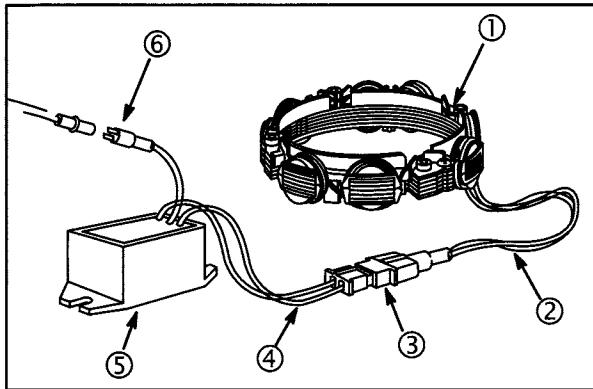

Fig. 26
1. Stator Assembly (1) – 10 or 16 amp DC regulated system, **Fig. 26**.
2. Two BLACK leads (2) from stator.
3. YELLOW connector (3) with two pin terminals.
4. Two YELLOW leads (4) to regulator-rectifier.
5. Regulator-rectifier (5).
6. One RED lead from regulator-rectifier to RED connector output lead (6).